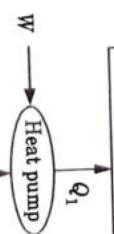

Fig. 2.17.1. A schematic diagram of a heat pump.
- Fig. 2.17.1.** A schematic diagram of a heat pump.
2. This transfer of heat from a low temperature body to a high temperature one is essentially a non-spontaneous process. And that calls for the help of an external work which is supplied to the heat pump (Fig. 2.17.1).